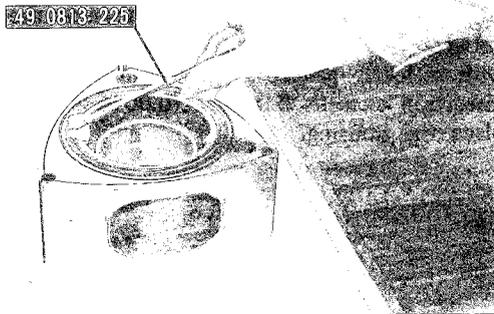

Fig. 1-20 Removing oil seal
5. Place a suitable protector onto the inner oil seal lip to protect the oil seal lip and remove the outer oil seal with oil seal remover (49 0813 225), as shown in Fig. 1-20. Do not exert strong pressure at only one place to prevent deformation of the oil seal.